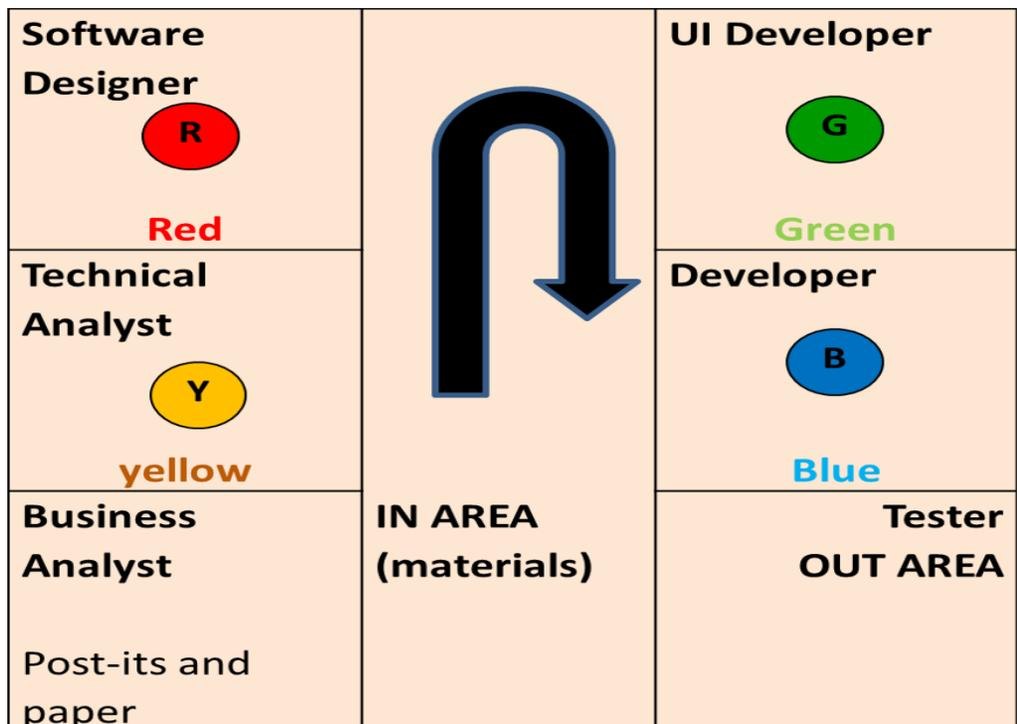

Figure 4: Roles around the table
Have all the materials on each table, and have each of the "roles", other than the customer, arranged around the table in a U order (see Figure 4).
2. Present the slide that shows figure 4.